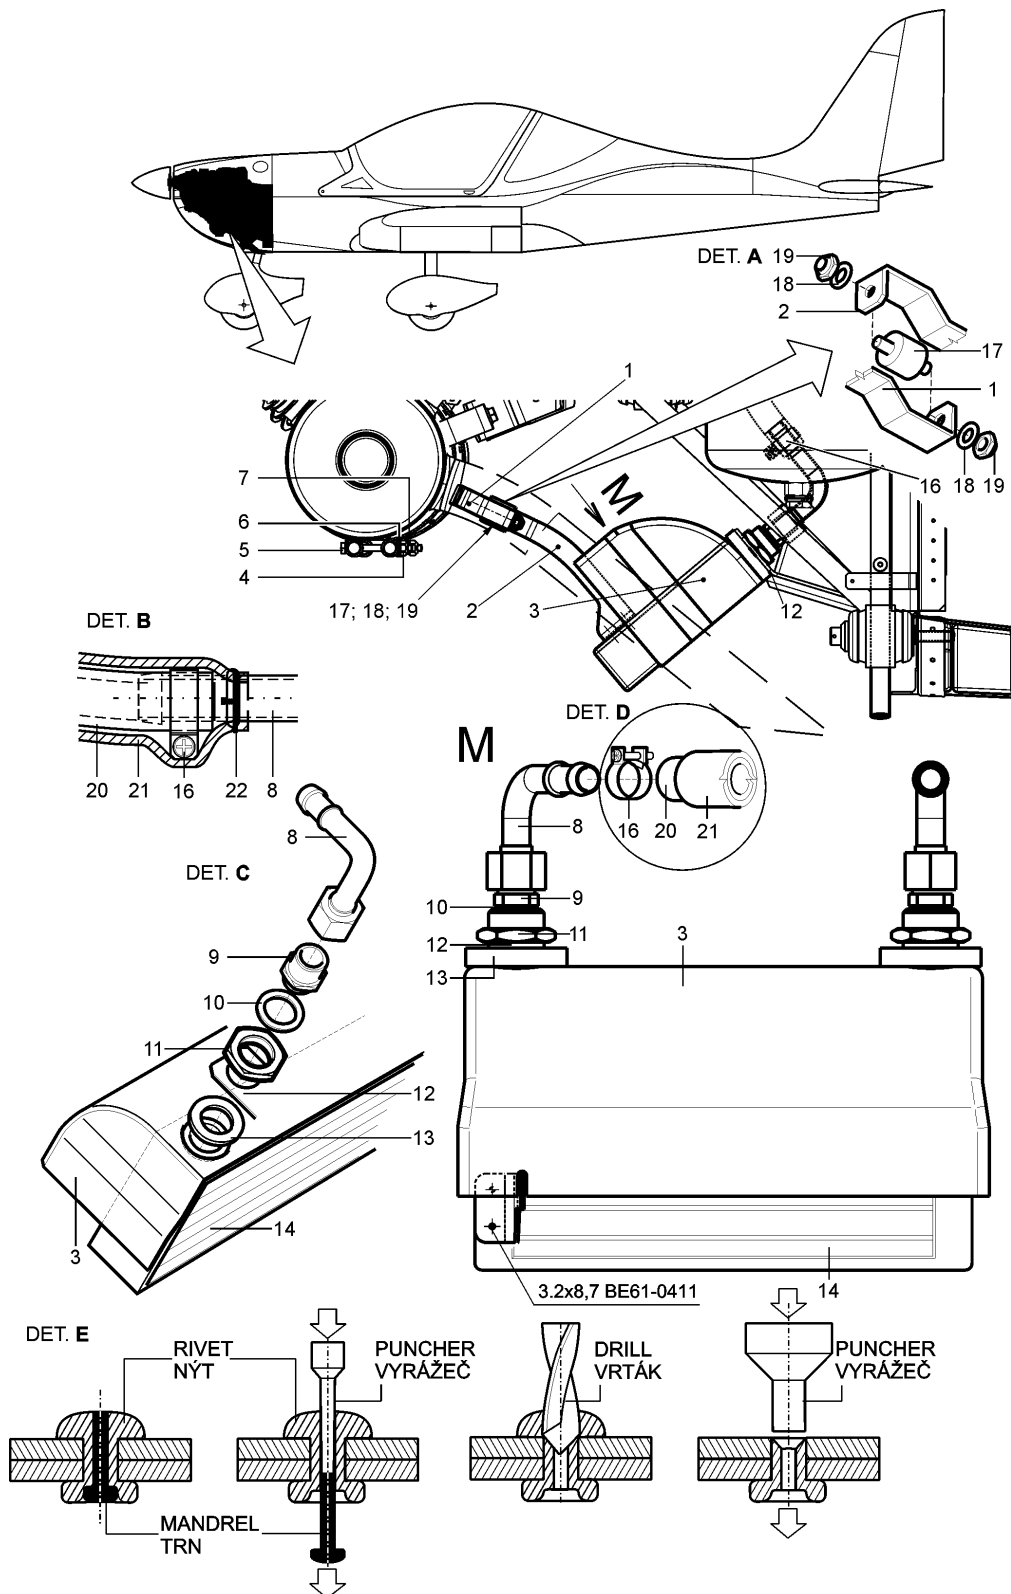

Fig. 1 Dismantling / installing the cooler
According to Fig.1, detail A in this bulletin, dismantle the silent block (17) secured by nuts (19) with washers (18).
Legend to Fig. 1 Dismantling / installing the cooler